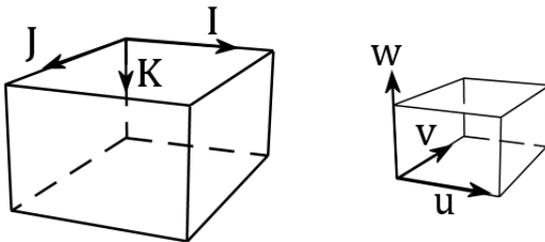

Figure 5.4. Coordinate systems used by Format 4.
- **I, J, K, u, v, w, ICODE, JCODE, KCODE, TRELEASE.** A line contains the data for a starting location. Repeat as often as needed. As illustrated in Figure 5.4, **[I, J, K]** are the [column, row, layer] indexes of the cell containing the starting location; **[u, v, w]** are the local coordinates (ranging from 0 to 1) of the starting location within the cell. The origin of **[I, J, K]** is the highest northwest corner of the model and the origin of **[u, v, w]** is the lowest southwest corner of a cell. **ICODE, JCODE, KCODE, TRELEASE** are not used nor supported by Seer3D, but they must be supplied. You can use any four numbers for them.